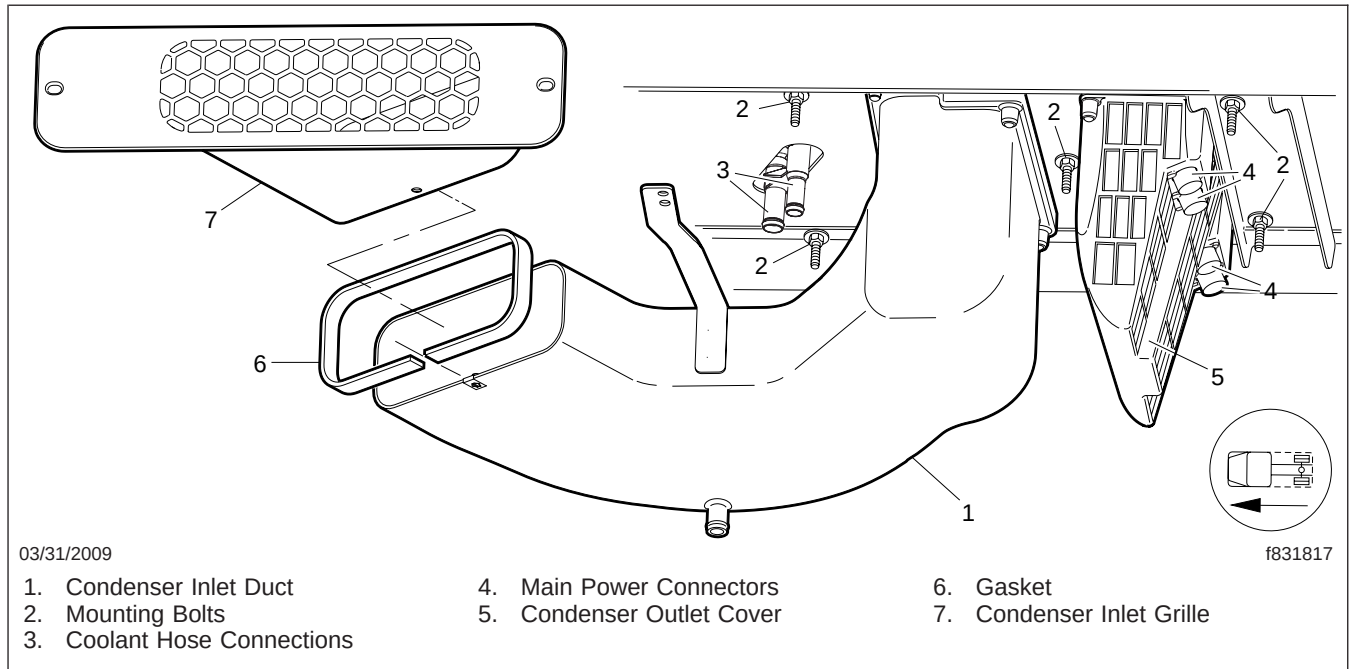

Fig. 2, Under Cab Components (pre-July 2011)
14. Disconnect the condenser intake duct from the under the cab. See Fig. 2.
15. Disconnect the coolant lines from the heater core. See Fig. 2.